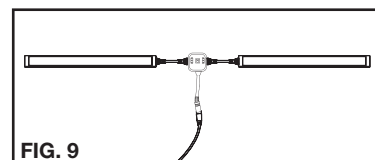

FIG. 9
**Split Configuration:** For layouts where preferred power source is centrally located within cabinets/mounting surfaces. (See **FIG. 9**)